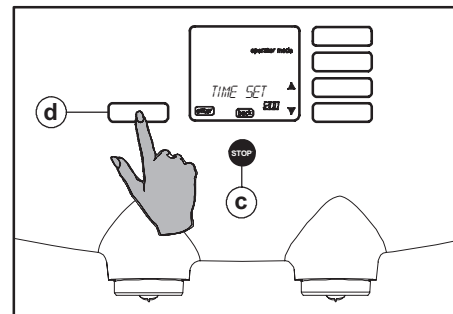

Fig. 58 Confirming the time setting
17. Press the enter button (fig. 58 d) to confirm the setting.
18. Press the stop button 2x (fig. 58 c) to end the programming.